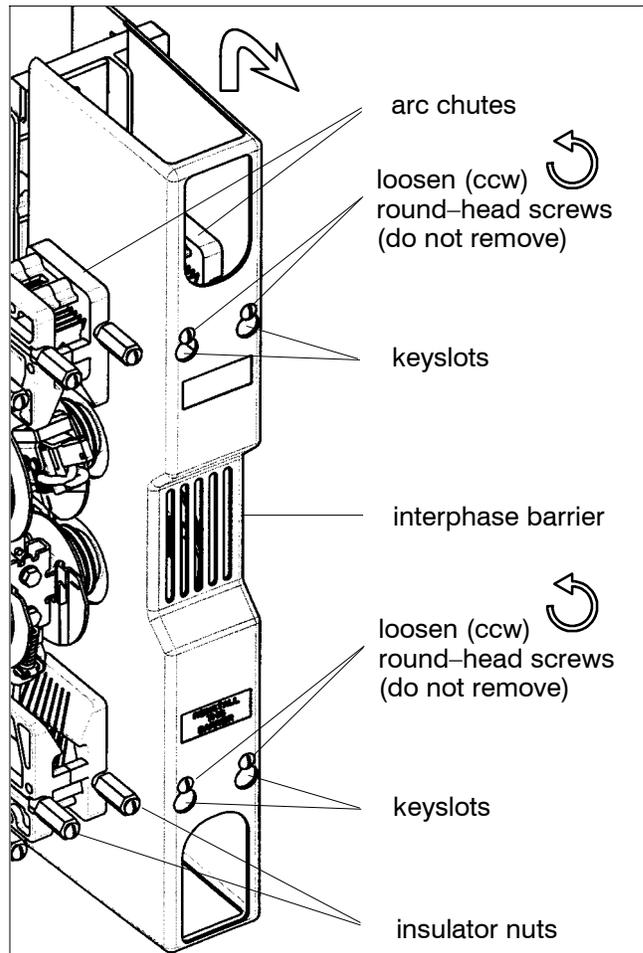

Figure 3-14. Interphase barrier removal.
3. **Remove the interphase barriers** (Figure 3-14). Use a blade screwdriver to loosen (ccw) four round-head screws holding each barrier to the arc chutes. Slide barrier up until keyholes clear the round-head screws, then remove it.
4. **Remove the arc chutes.** Use a 5/8" nutdriver to remove (ccw) two long insulator nuts. Then pull the arc chute outward (off the long threaded rods). See Figure 3-14.
Slide the arc chute (arc splitters toward the contacts and recess for nuts outward) between the two long threaded rods. Reinstall the two long insulator nuts (round shoulder in) and use a 5/8" nutdriver to GENTLY tighten (cw) until snug. Do not over-tighten these nuts. See Figure 3-14.
Install the barrier over the arc chutes and slide it up until the four round-head screws align in the four keyholes in the barrier. Then slide the barrier down. Use a blade screwdriver to tighten (cw) the four round-head screws to secure the barrier to the arc chute insulator nuts. See Figure 3-14.